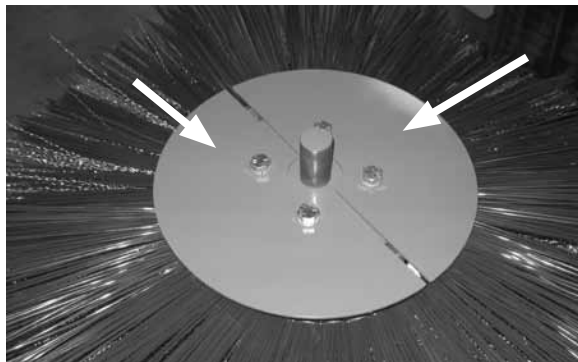

Figure 29
6. Remove retainer plate halves (Figure 29) from one end of the brush.